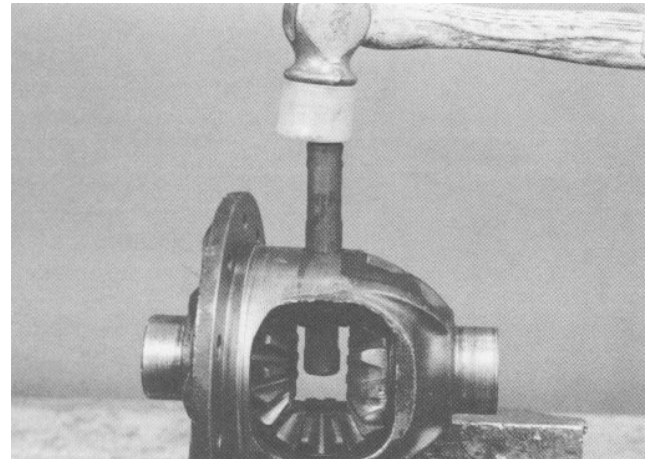

Figure 48
14. Install the pinion shaft. Grease the shaft to aid assembly. Be sure the hole in the pinion shaft lines up with the hole in the differential case (Fig. 48).